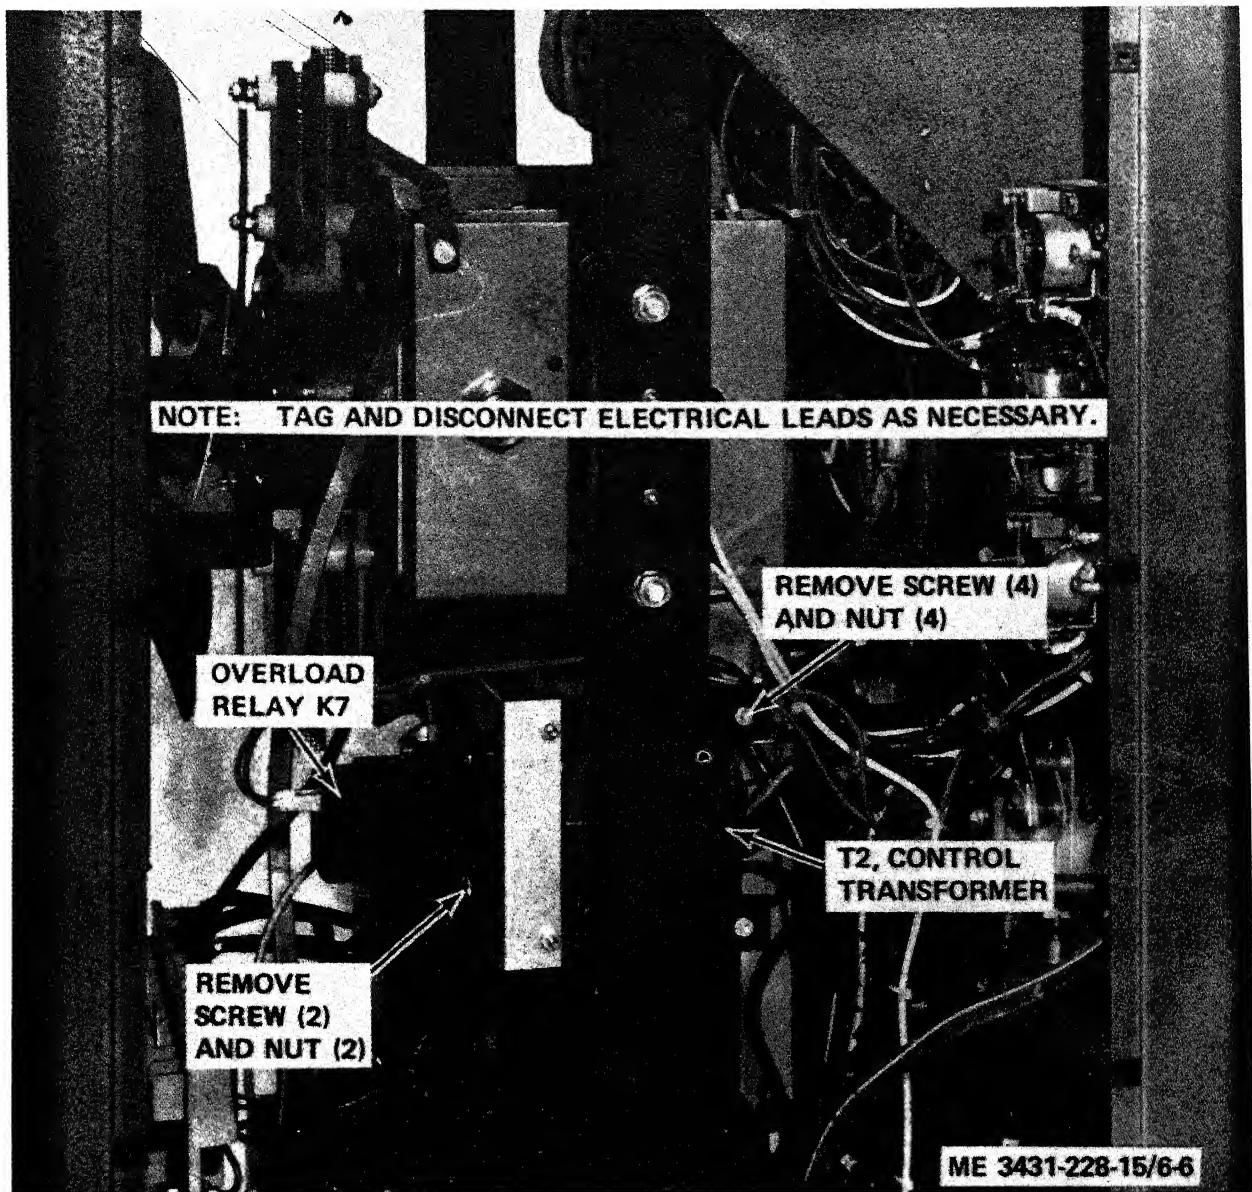

Figure 6-6. Overload relay K7 and control transformer T2, removal and installation.
- (1) Disconnect ac power from the welding machine.
- (2) Remove the top and housing (para 3-20).
- (3) Refer to figure 6-6 and remove overload relay K7.
(4) Refer to figure 6-6 and remove control transformer T2.
- (1) Refer to figure 6-6 and install the control transformer.
- (2) Refer to figure 6-6 and install the overload relay.
- (3) Install the top and housing (para 3-20).